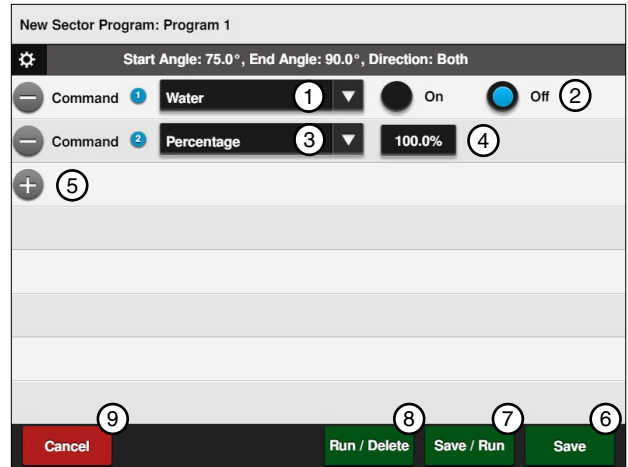

Figure 147-1
- Select the **Choose Command** drop-down menu and choose **Water**. Refer to Figure 147-1.